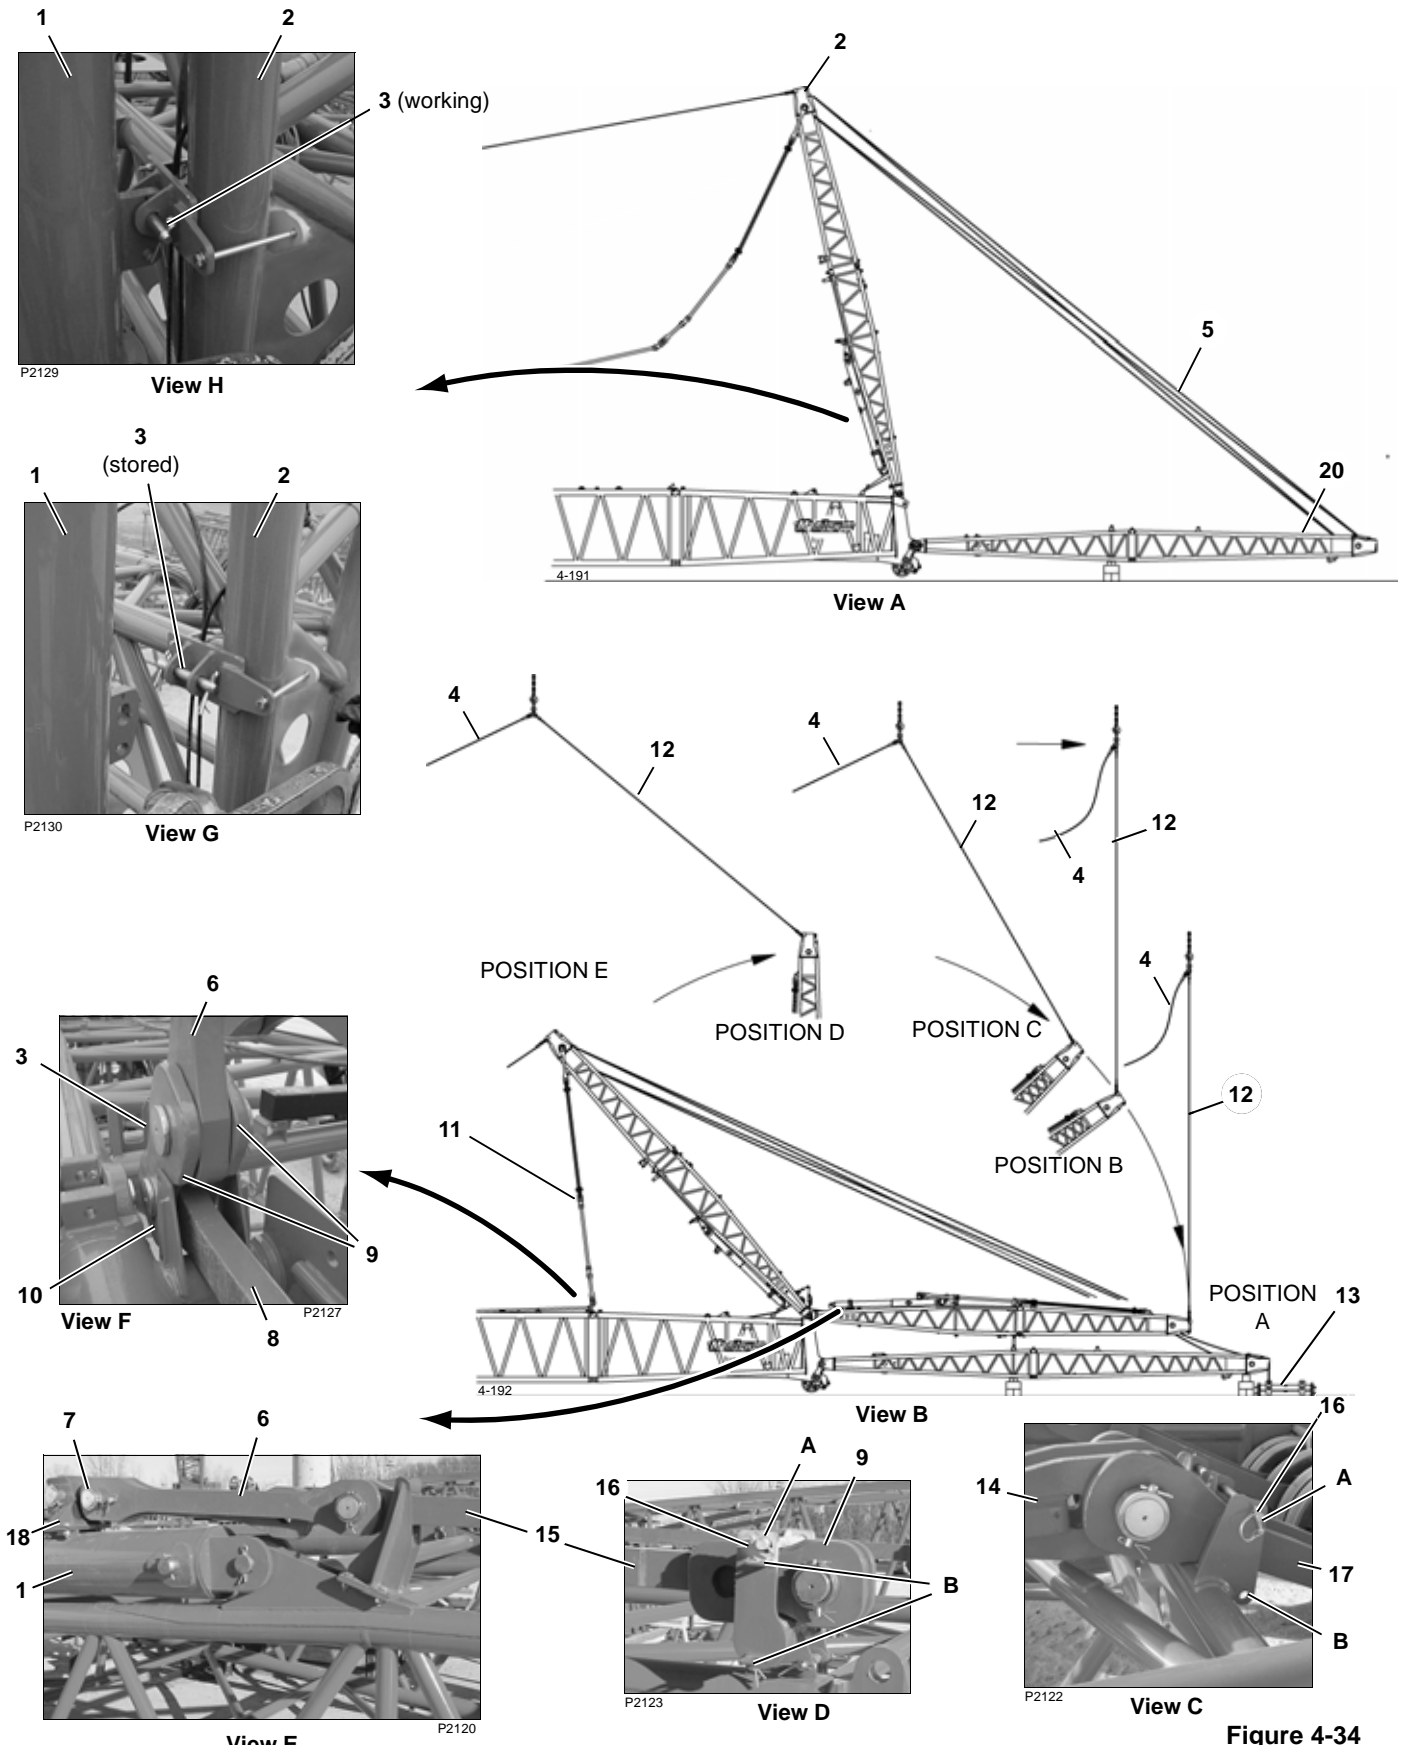

Figure 4-34
See Figure 4-34 for following procedure steps.
**Component Identification for Figure 4-34**